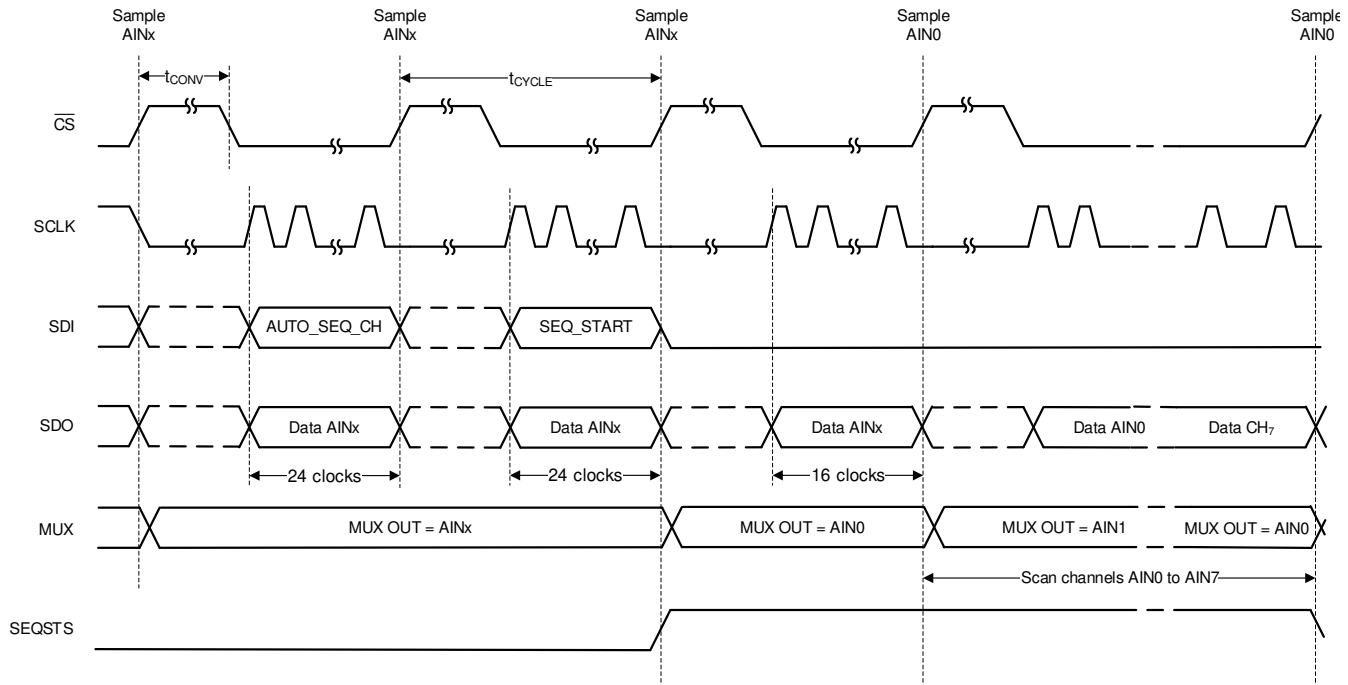
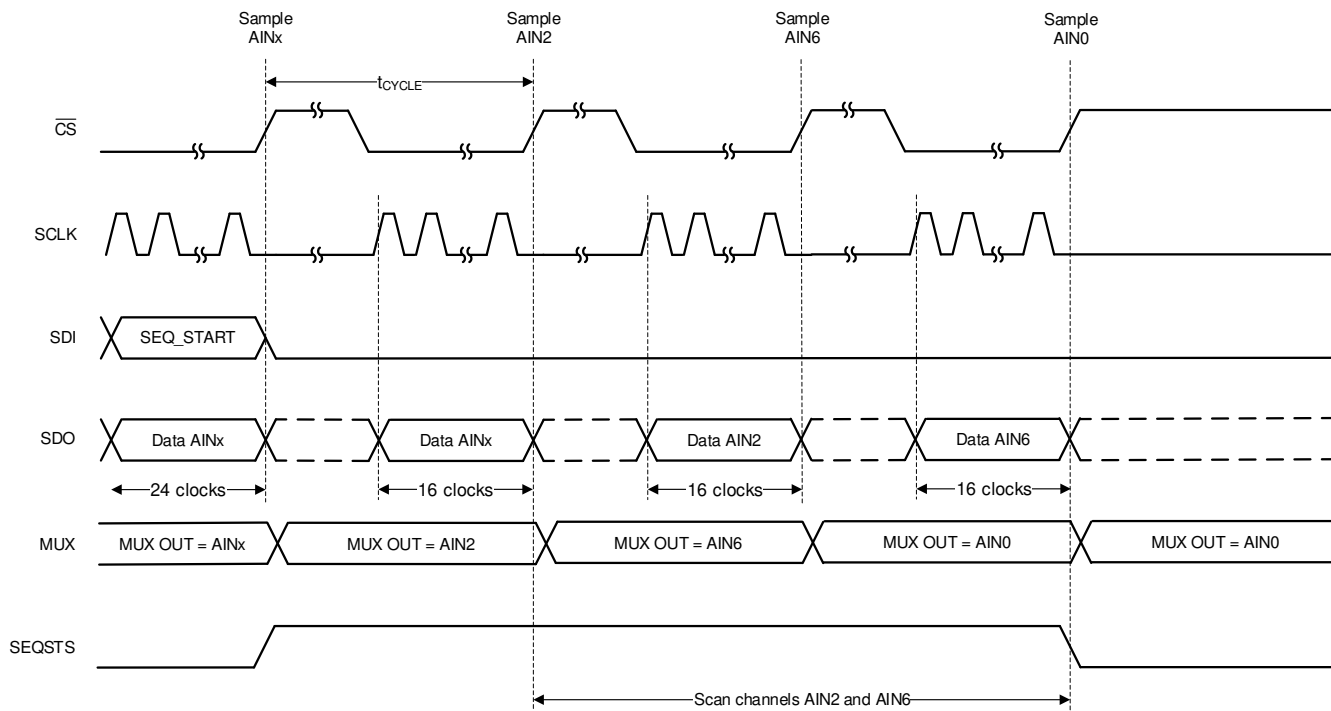

Figure 6-14. Starting a Sequence in Auto Sequence Mode
Figure 6-15. Example: Scanning Channels 2 and 6 in Auto Sequence Mode
In auto sequence mode, the internal channel sequencer selectively scans channels from AIN0 through AIN7 in ascending order. To select auto sequence mode, configure SEQ_MODE to 10b in the DEVICE_CFG register using a 3-byte register access. Enable one or more channels among AIN[7:0] by configuring the AUTO_SEQ_CFG1 register. By default all analog input channels are enabled. After enabling the desired channels, start the sequence by setting SEQ_START to 1b. The ADC auto-increments through the enabled channels after every \overline{CS} rising edge. Configure SEQSTS_CFG bit to 1b in SDO_CNTL4 register to indicate sequence status on SDO-1/SEQSTS pin. When SEQ_START is set to 1b, the SDO-1/SEQSTS pin is at logic 1 as shown in Figure 6-14 until the last channel conversion is complete. After the last enabled channel conversion is complete, channel AIN0 is selected and SDO-1/SEQSTS is in a high-impedance state.
As an example, Figure 6-15 depicts a timing diagram for when the device is scanning AIN2 and AIN6 in auto sequence mode. When AIN6 is converted, SDO-1/SEQSTS is Hi-Z and AIN0 is selected as the active channel. At the end of sequence, if more conversion frames are launched the device returns valid data corresponding to AIN0.
- Configure the AUTO_SEQ_CFG1 register. In Figure 6-15, AUTO_SEQ_CFG1 = 0x44.
After configuring the channel scanning order, start index, and stop index, initiate the scanning by setting the SEQ_START bit to 1b. The ADC scans through the enabled channels after every $\overline{\text{CS}}$ rising edge as defined by the channel scanning order. When SEQ_START is set to 1b, the SDO-1/SEQSTS pin is pulled high until the last channel conversion frame is complete, as described in Figure 6-14. As illustrated in Figure 6-15, channel AIN0 is selected and SEQSTS/SDO-1 goes to Hi-Z after the last enabled channel conversion is complete.
As an example, Figure 6-15 provides a timing diagram for when the channel configuration is set as in Table 6-5. When AIN6 is converted, SEQSTS/SDO-1 goes to Hi-Z and AIN0 is selected as the active channel. If more conversion frames are launched at the end of the sequence, the device returns valid data corresponding to AIN0.
- Configure the CCS_START_INDEX and the CCS_END_INDEX registers. In Figure 6-15, CCS_START_INDEX = 0 and CCS_STOP_INDEX = 1.
- Configure the CCS_SEQ_LOOP register to 1 to indefinitely loop the sequence. In Figure 6-15, the CCS_SEQ_LOOP register = 0b.